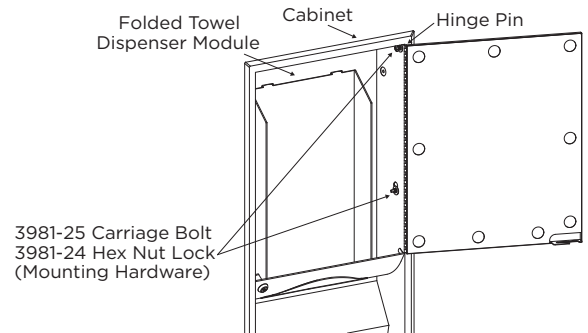

Figure 1
2. Loosen but do not remove the four 3961-24 Washer Lock Nuts located on the left back and right side of the Modular Housing Assembly until the 3961-25 Carriage Bolt can be removed. The 3961-24 Hex Lock Nut should not be removed from the 3961-25 Carriage Bolt, ensuring that the Carriage Bolt will not fall into the wall cavity. (See Figure 1)